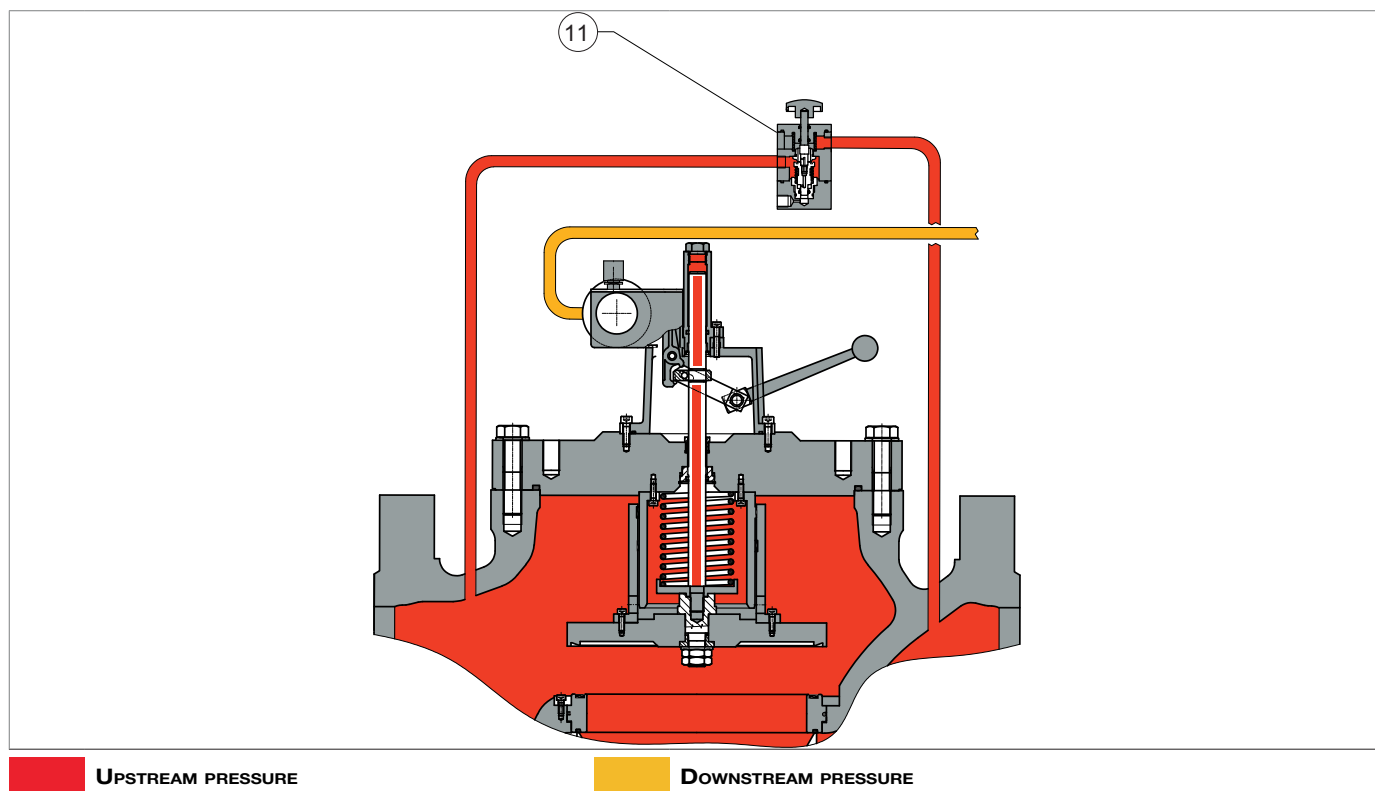

Fig. 4.2. HP2/2 bypass detail for slam-shut valve SBC 782 10"
For the 10" version, bypassing must be performed using the HP2/2 bypass device (Fig. 4.2, ref. 11).